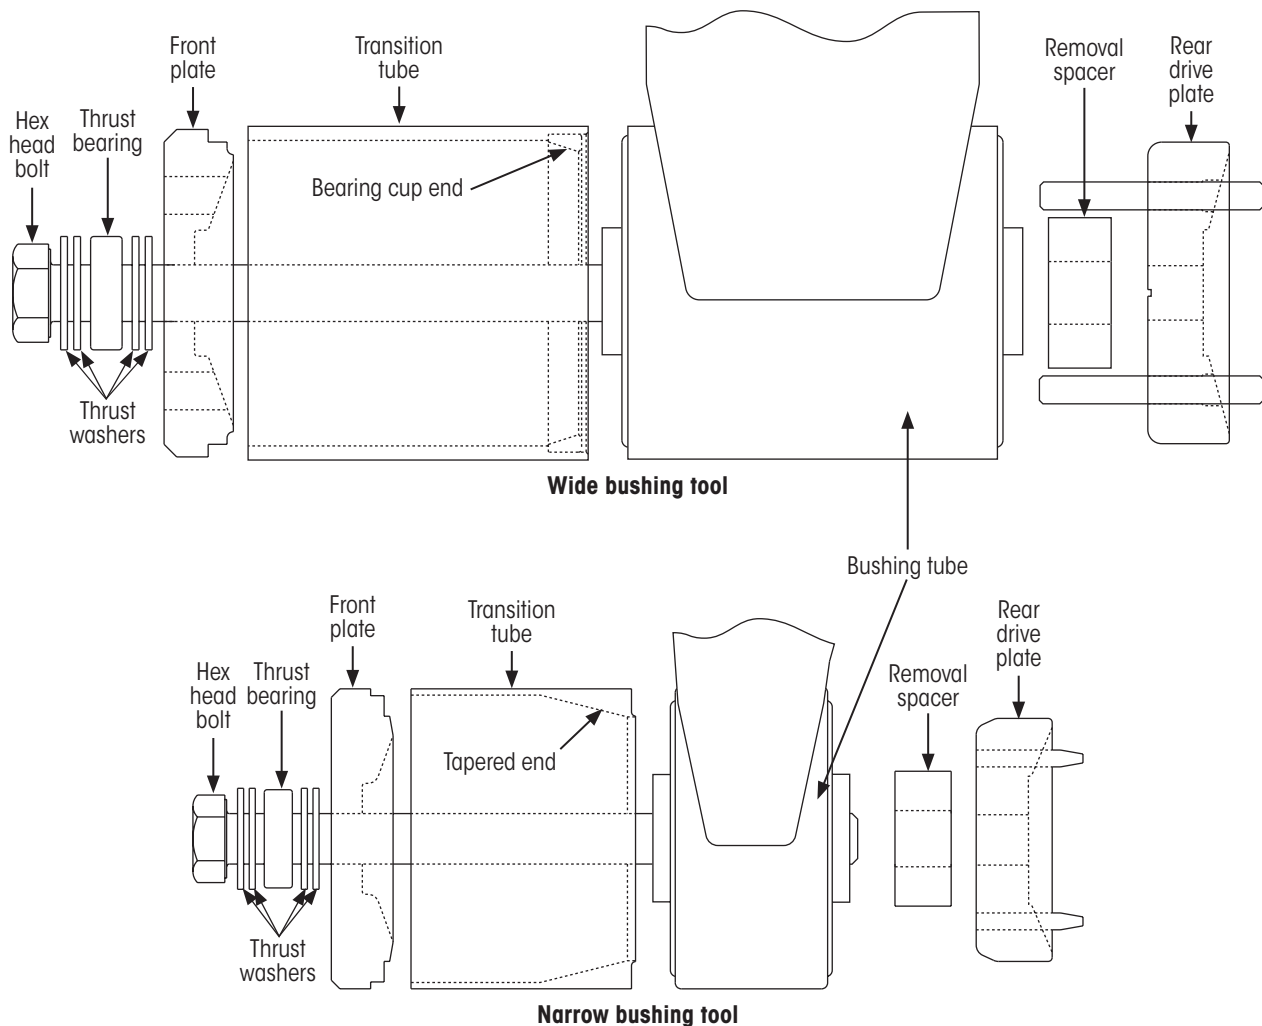
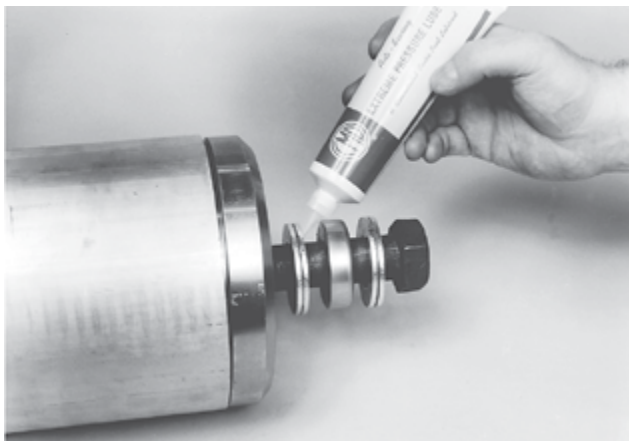

Figure 15: Assembling bushing tool for removal
Figure 16: Applying lube to thrust washers
5. With the transition tube empty, **assemble** the bushing replacement tool as shown in Figure 15.
IMPORTANT: For bushing removal, ensure the tool is assembled so that the end of the transition tube with the bearing cup (wide tool) or taper (narrow tool) can be placed against the bushing tube as shown in Figure 15.
There must be two lubricated thrust washers on each side of the thrust bearing as shown in Figure 15 and Figure 16.
6. **Apply** extreme-pressure lube to external surfaces of the thrust washers (Figure 16).